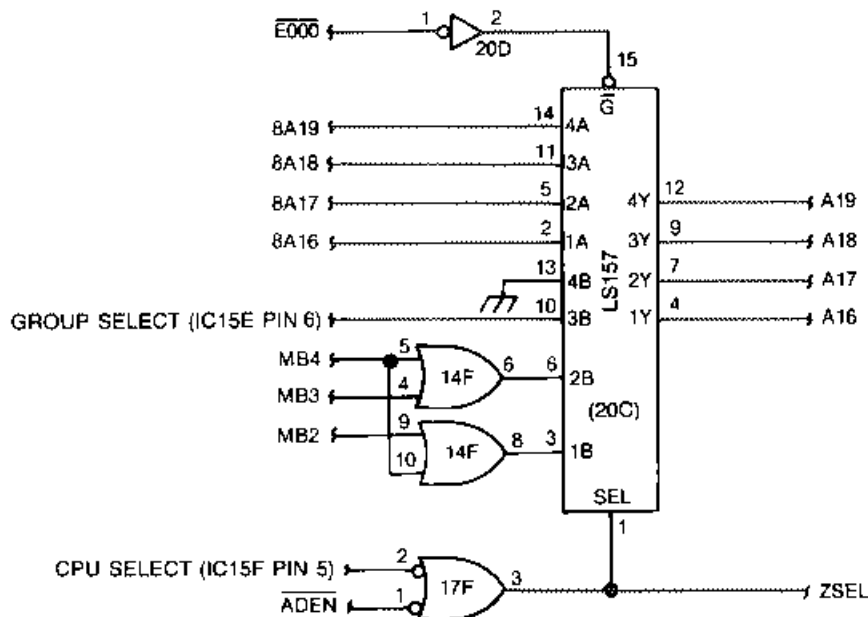

FIGURE 2-44 DRAM ADDRESS SELECTOR CIRCUIT
2.3.2.12 DRAM Address Selector Circuit (Figure 2-44)